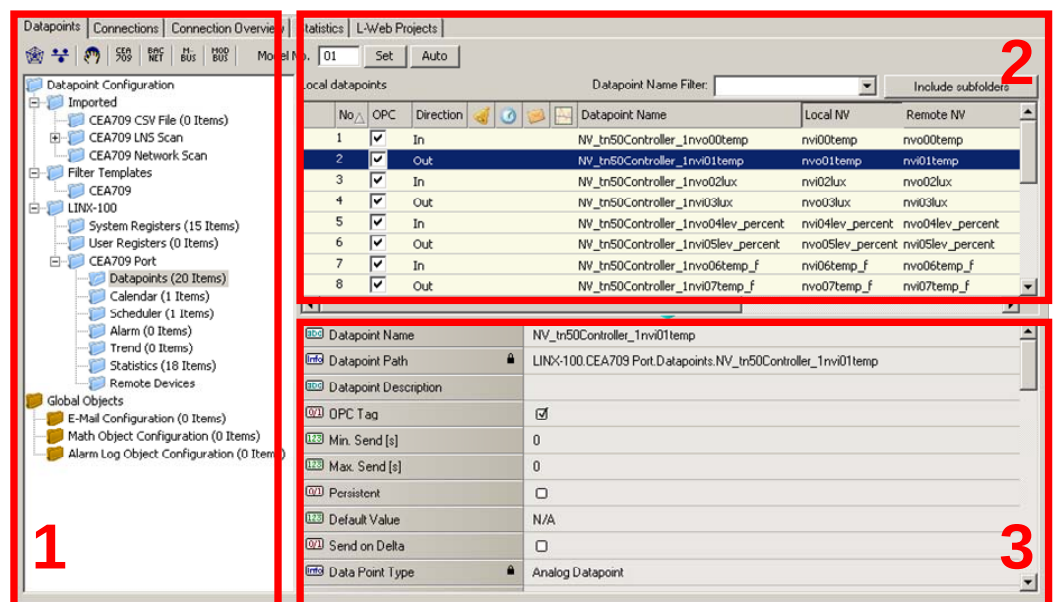

Figure 54: Data Point Manager Dialog.
The Configurator uses a central concept to manage data points. The data point manager is located on the **Datapoints** tab as shown in Figure 54. It is used to select, create, edit and delete data points. The dialog is divided into three sections:
- The folder list (number 1 in Figure 54),
- The data point list (number 2 in Figure 54),
- And a property view (number 3 in Figure 54).